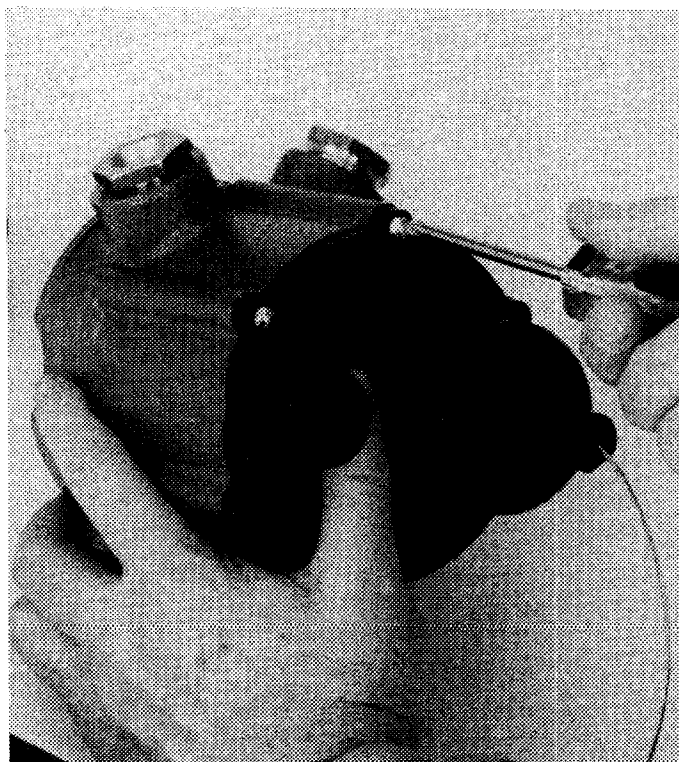

FIG. 7
3. Remove screws in switch base. Fig 7.